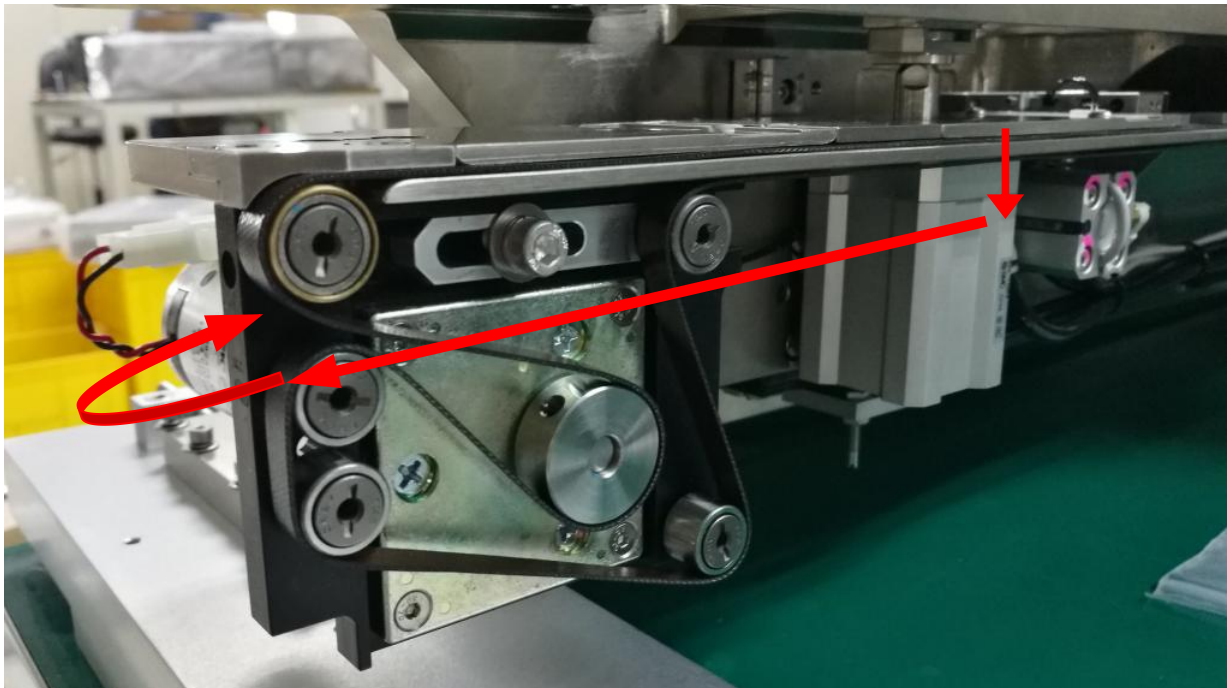
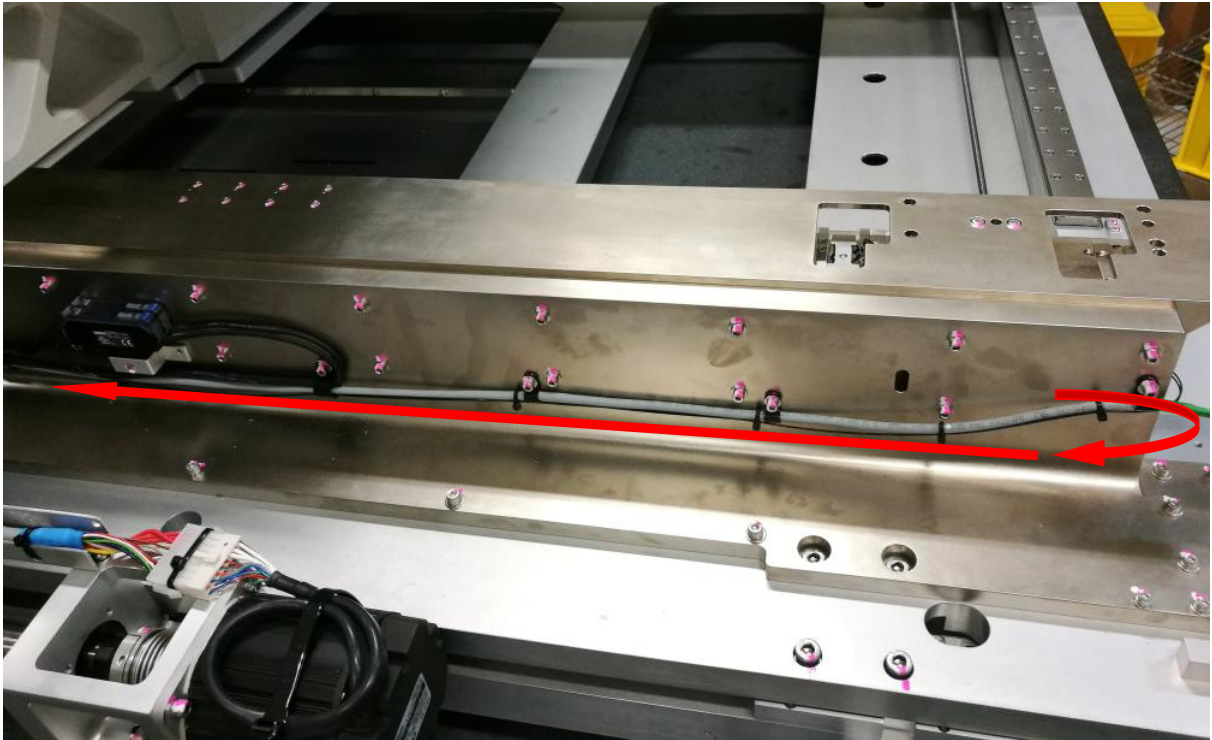

Figure 37 PIP Sensor Cable Routing
Figure 38 PIP Sensor Cable Routing
8. Route PIP Sensor Cable to Right Amplifier by refer to below routing. May refer to Figure 37 & Figure 38